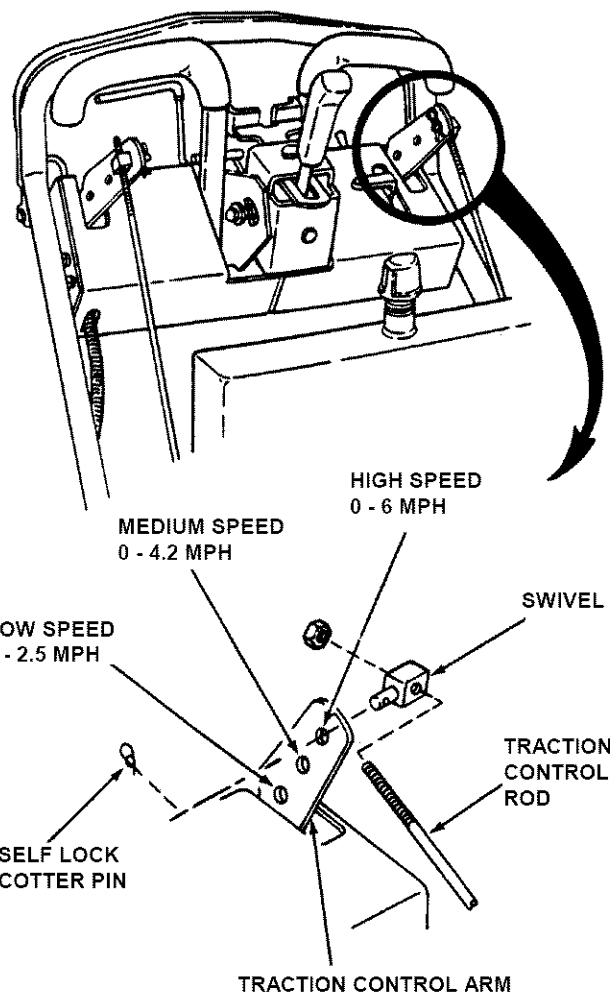

FIGURE 4.5
5. Start the Engine and resume using the Machine at the newly selected speed range. See Figure 4.5.